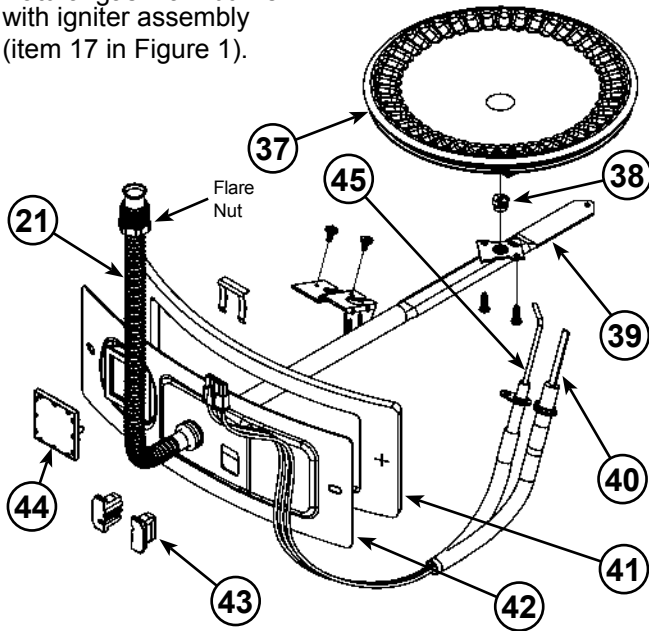
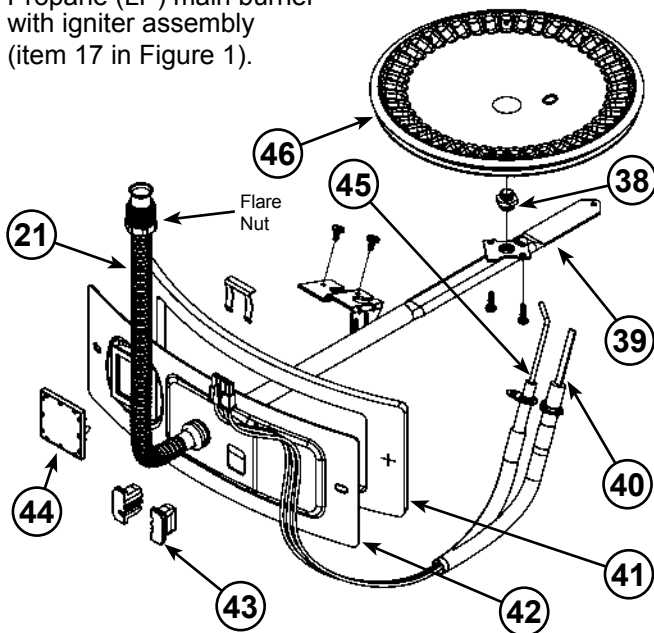
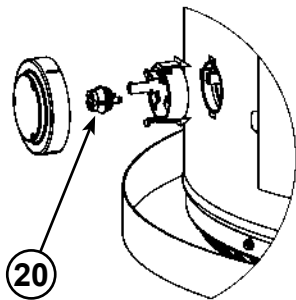
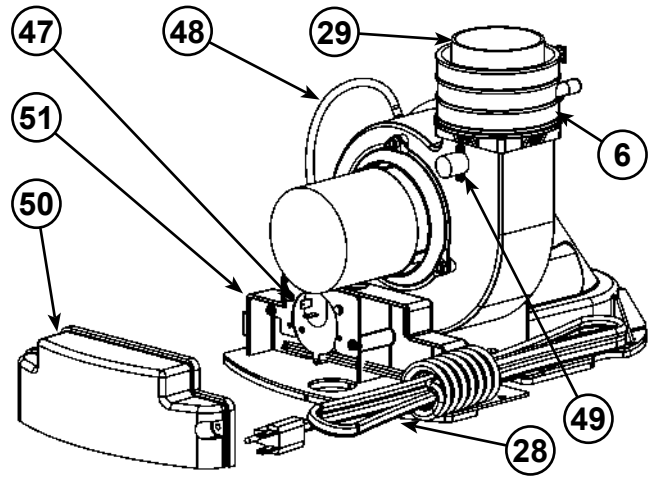

Figure 3
Figure 4
Figure 5
Figure 6
| 1 Vent Termination Elbow with Rodent Screen | 17 Manifold Door Assembly (behind outer door) (see Figure 3 (NG) or Figure 4 (LP)) | 36 *Thermal Expansion Tank (required for all closed systems) |
| 2 *Vent Pipe | 18 *Floor Drain | 37 Aluminum Burner (see Figure 3) |
| 3 *Vent Pipe Coupling (if required) | 19 *Metal Drain Pan | 38 Gas Orifice (see Figure 3) |
| 4 CPVC Vent Pipe (1.5m (5 ft.) supplied) | 20 Flammable Vapour Sensor (under cover) (see Figure 5) | 39 Gas Manifold (see Figure 3) |
| 5 *CPVC Vent Pipe Elbow (long radius) | 21 Flexible Manifold Tube (see Figure 3) | 40 Hot-Surface Igniter (see Figure 3) |
| 6 Gear Clamp (see Figure 6) | 22 *Sediment Trap | 41 Manifold Door Gasket (see Figure 3) |
| 7 T&P Valve | 23 *Ground Joint Union (gas connection) | 42 Manifold Door (see Figure 3) |
| 8 **Combo Heating System Supply Outlet (Optional) | 24 *Main Manual Gas Shut-off Valve | 43 Two Piece Grommet With Clip (see Figure 3) |
| 9 Cold-Water Inlet Nipple/Diptube | 25 *Gas Supply* | 44 Viewport (see Figure 3) |
| 10 * Discharge Pipe | 26 Baffle Assembly | 45 Flame Sensor Rod (see Figure 3) |
| 11 Gas Control Valve/Thermostat (Honeywell) | 27 Rating Plate | 46 Stainless Steel Burner (see Figure 4) |
| 12 Gas Valve Electronic Control Module And Cover (Honeywell) | 28 Blower with Power Cord (see Figure 6) | 47 Air Switch (inside box) (see Figure 6) |
| 13 **Combo Heating System Return Inlet (Optional) | 29 *Rubber Coupling (see Figure 6) | 48 Air Tubing (see Figure 6) |
| 14 ***Control Harness | 30 *Inlet Water Shut-off Valve | 49 Blower High Limit Switch (see Figure 6) |
| 15 Drain Valve | 31 *Union (water connection) | 50 Junction Box Cover (see Figure 6) |
| 16 Outer Gas Door | 32 Hot-Water Outlet Nipple | 51 Junction Box (see Figure 6) |
This device is located on the blower (see Figure 6, item 49) and limits the maximum temperature of the blower. If the blower temperature rises above the temperature setting, the switch opens causing the heater to shut down. The switch will auto reset once the temperature drops sufficiently.
This device, located in the junction box, monitors the air pressure produced by the blower. In the event that the exhaust venting becomes blocked or sufficiently restricted, the switch will shut the heater down (see Figure 6, item 47). If the water heater has not gone into a soft lockout condition, the heater will restart after the blockage is removed (see “Resetting The Heater Control”).